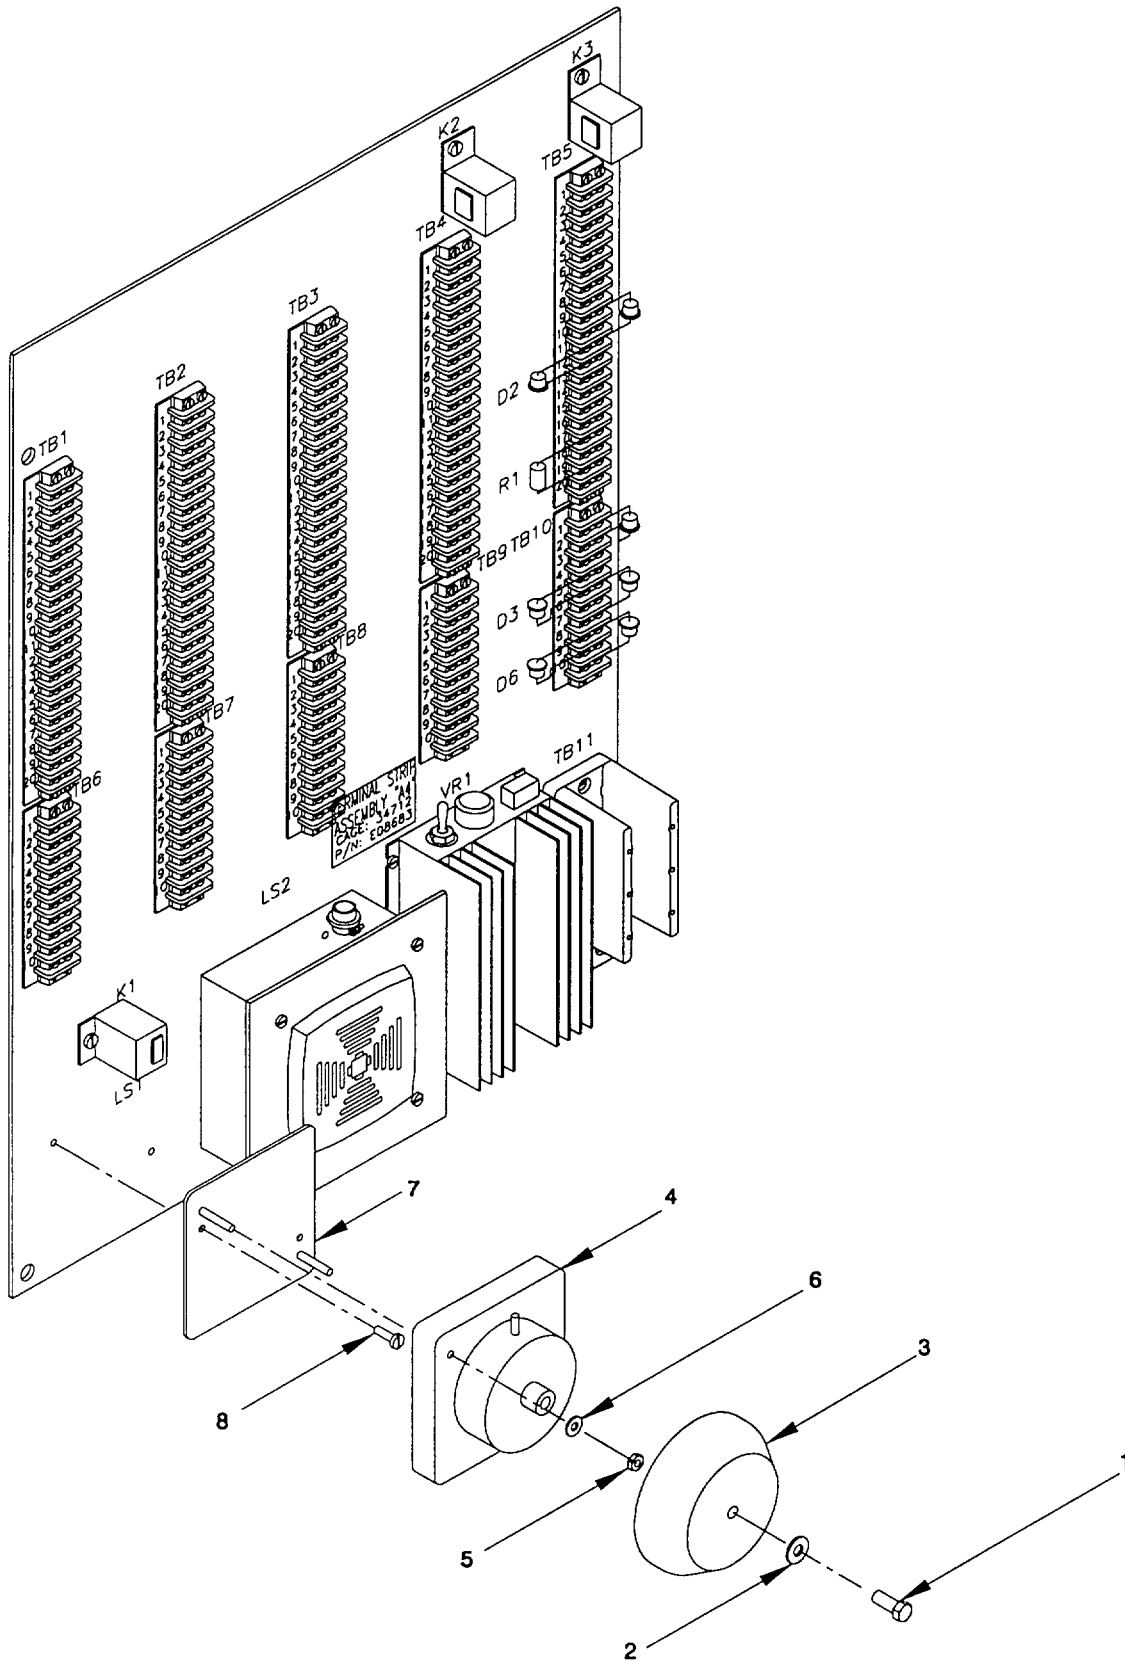

Figure 2-135. Alarm Bell, Engine Malfunction, Terminal Strip "A4", Remove/install.
a. Remove. (figure 2-135)
- (1) Remove the capscrew (1), washer (2), and bell (3) to expose the bell solenoid (4).
- (2) Tag and disconnect the wiring from the solenoid (4).
- (3) Remove nut (5) and washer (6) to free solenoid (4) from base (7).
- (4) Remove round head screw (8) to free base from terminal plate.
b. Install. (figure 2-135)
- (1) Position base (7) on terminal plate and secure with round head screw (7).
- (2) Position solenoid (4) and secure with washer (6) and nut (5).
- (3) Connect wiring on solenoid (4) as previously tagged. Refer to the Terminal Strip A4 Assembly in Appendix G for wiring diagrams. Use tie wraps and mounting bases to secure any loose wiring.
- (4) Position bell (3) on solenoid (4) and secure with washer (2) and capscrew (1).